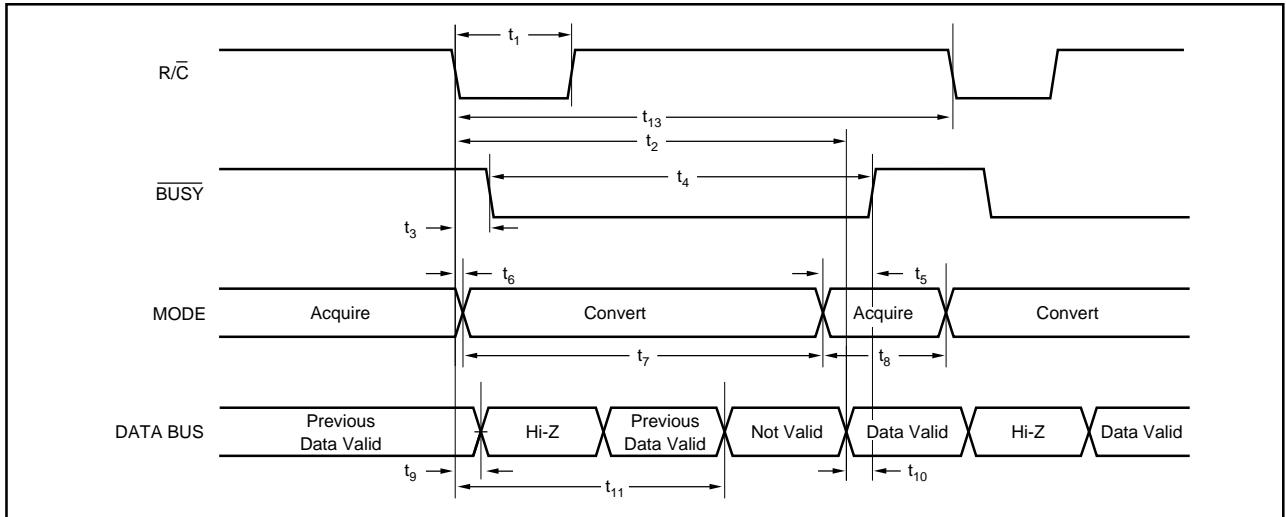

FIGURE 3. Conversion Timing with Outputs Enabled after Conversion (CS Tied LOW.)
Table II for a summary of  $\overline{CS}$ ,  $R/C$ , and  $\overline{BUSY}$  states and Figures 3 through 5 for timing diagrams.
NOTE: (1) See Figures 3 and 4 for constraints on data valid from conversion "n-1".
After conversion 'n' is completed and the output registers have been updated,  $\overline{BUSY}$  (pin 26) will go HIGH. Valid data from conversion 'n' will be available on D15-D0 (pin 6-13 and 15-22).  $\overline{BUSY}$  going HIGH can be used to latch the data. Refer to Table IV and Figures 3 and 5 for timing specifications.
After conversion 'n' has been initiated, valid data from conversion 'n-1' can be read and will be valid up to  $7\mu s$  after the start of conversion 'n'. Do not attempt to read data from  $7\mu s$  after the start of conversion 'n' until  $\overline{BUSY}$  (pin 26) goes HIGH; this may result in reading invalid data. Refer to Table IV and Figures 3 and 5 for timing specifications.
The number of control lines can be reduced by tieing  $\overline{CS}$  LOW while using  $\overline{R/C}$  to initiate conversions and activate the output mode of the converter. See Figure 3.